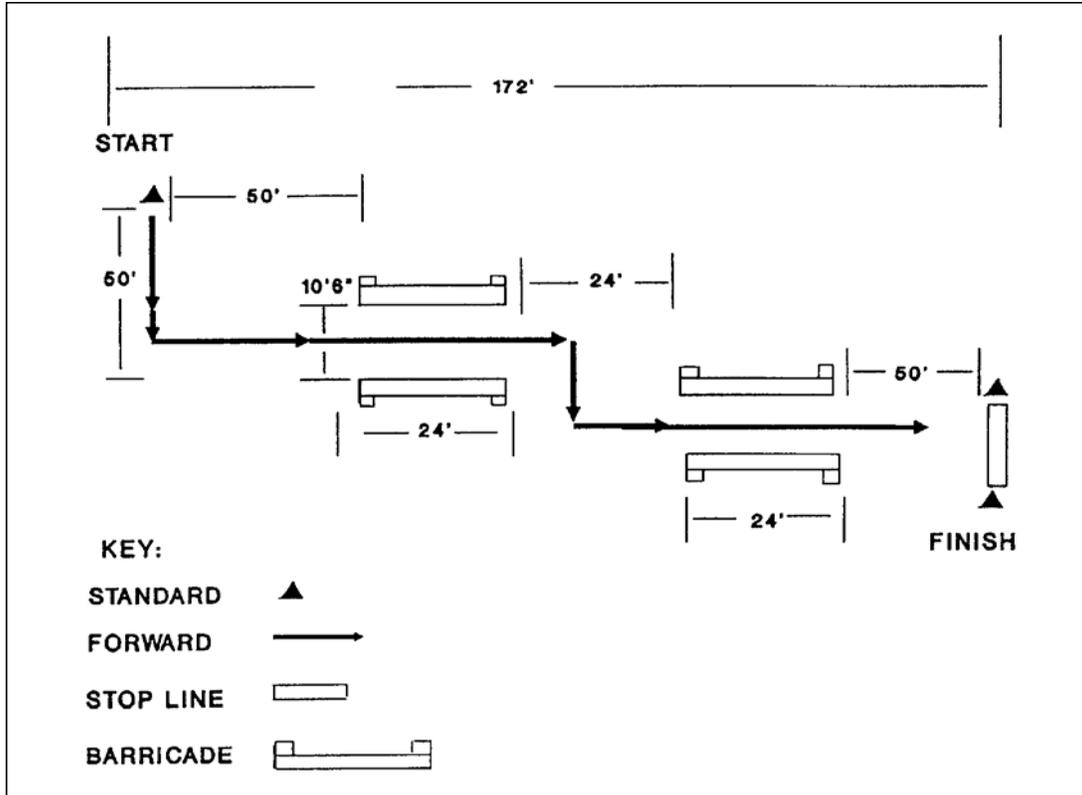

Figure 6-3. Light Vehicle Offset Alley.
- Figure 6-3, light vehicle offset alley.